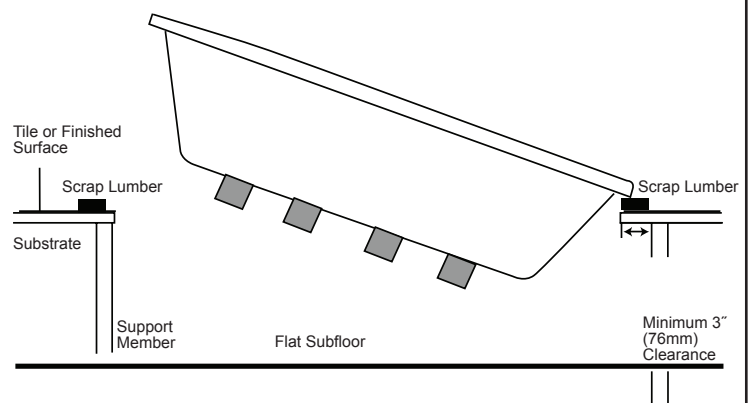

Figure 8 - Drop-In Installation
- 7 Place a piece of scrap lumber on each of the ends of the cutout – this will be used as a temporary support prior to lowering the bathtub fully into the opening (Figure 8).